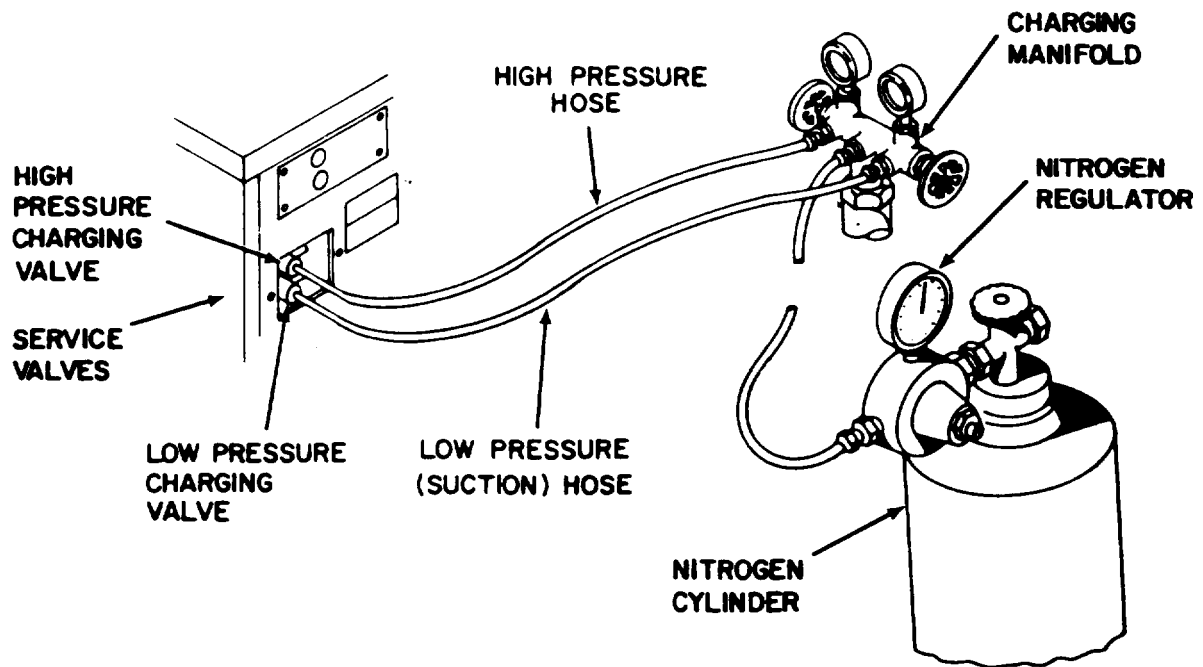

Figure 5-2. Leak Test, Nitrogen Bottle and Regulation Setup.
10. Connect nitrogen regulator to center hose on charging manifold. See Figure 5-2.